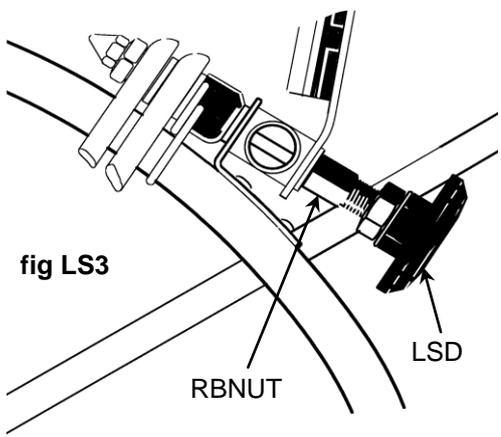

fig LS3
2. Unscrew the rear brake nut RBNUT (fig LS3) and remove it with the lower stop disc LSD still attached. Retain the washers and reflector (on Mk 2 bikes, shipped before March 2000, the LSD is different from that shown).
5. Fit the brake and mudguard blade (figs LS3 & MG4).